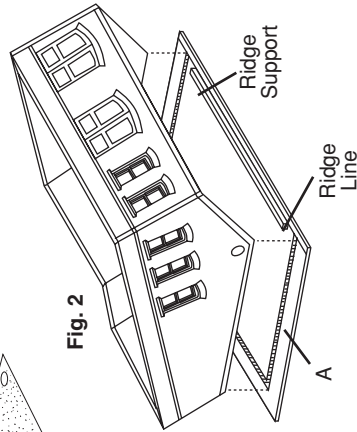

Fig. 2
6. As shown in Fig. 2, lay building on Roof Section A, aligning roof peaks with the line you have drawn. Allow an equal overhang on both ends. Glue Roof Section A to building and allow to dry.